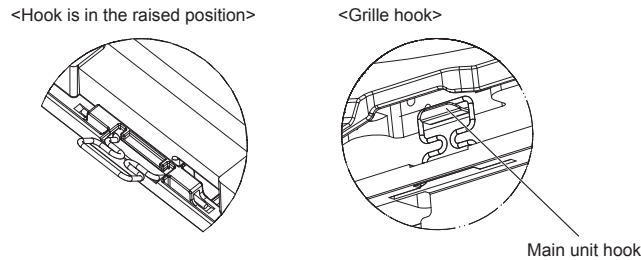

Fig. 10-5
- Align the screw holes in the corners of the grille with the screw mounting holes in the corners of the main unit, latch the two hooks on the grille onto the drain pan projections on the main unit, and temporarily hang the grille. (Fig. 10-5)
- When tightening the screw with captive washer ③, tighten it at a torque of 4.8 N·m (4 ft·lbs) or less. Never use an impact screwdriver. It may result in parts damage.
- After tightening the screw, confirm that the two grille hooks (Fig. 10-5) are latched onto the hooks on the main unit.